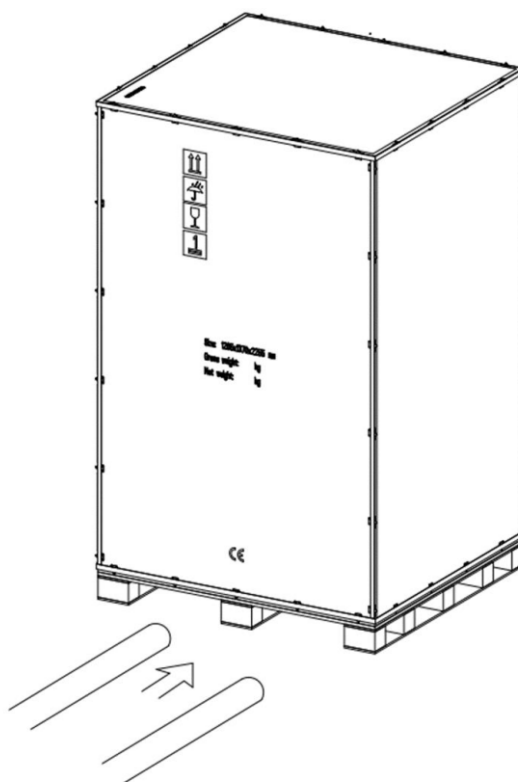

Figure 3-3 Transport the equipment to the designated location
- Step 2: Use a forklift to transport the equipment to the designated location, see Figure 3-3;